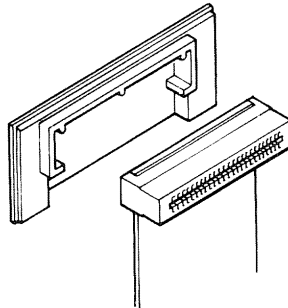

Figure 6. Place hood over connector with cable exiting from bottom of hood.
4. Attach a flat hood onto the other end of the cable, with the cable exiting from the bottom of the hood (Figure 6).